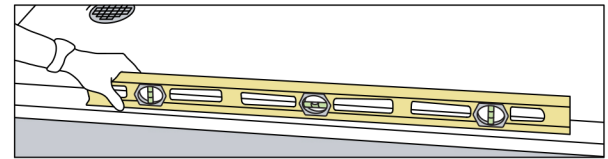

Figure 8
8. Level the pan in all directions. **See Figure 8**